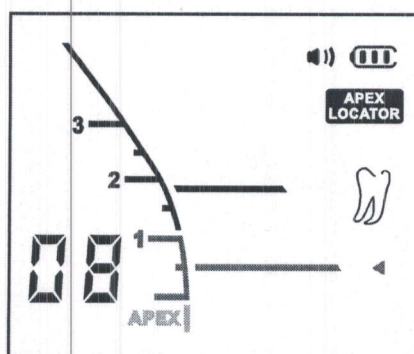

Fig.8
- 3) Switch to apex locator mode by successive presses on the MODE SWITCH button, visual information appears **APEX LOCATOR** appear indicates that the apex locator is ready for use. (Fig.8)